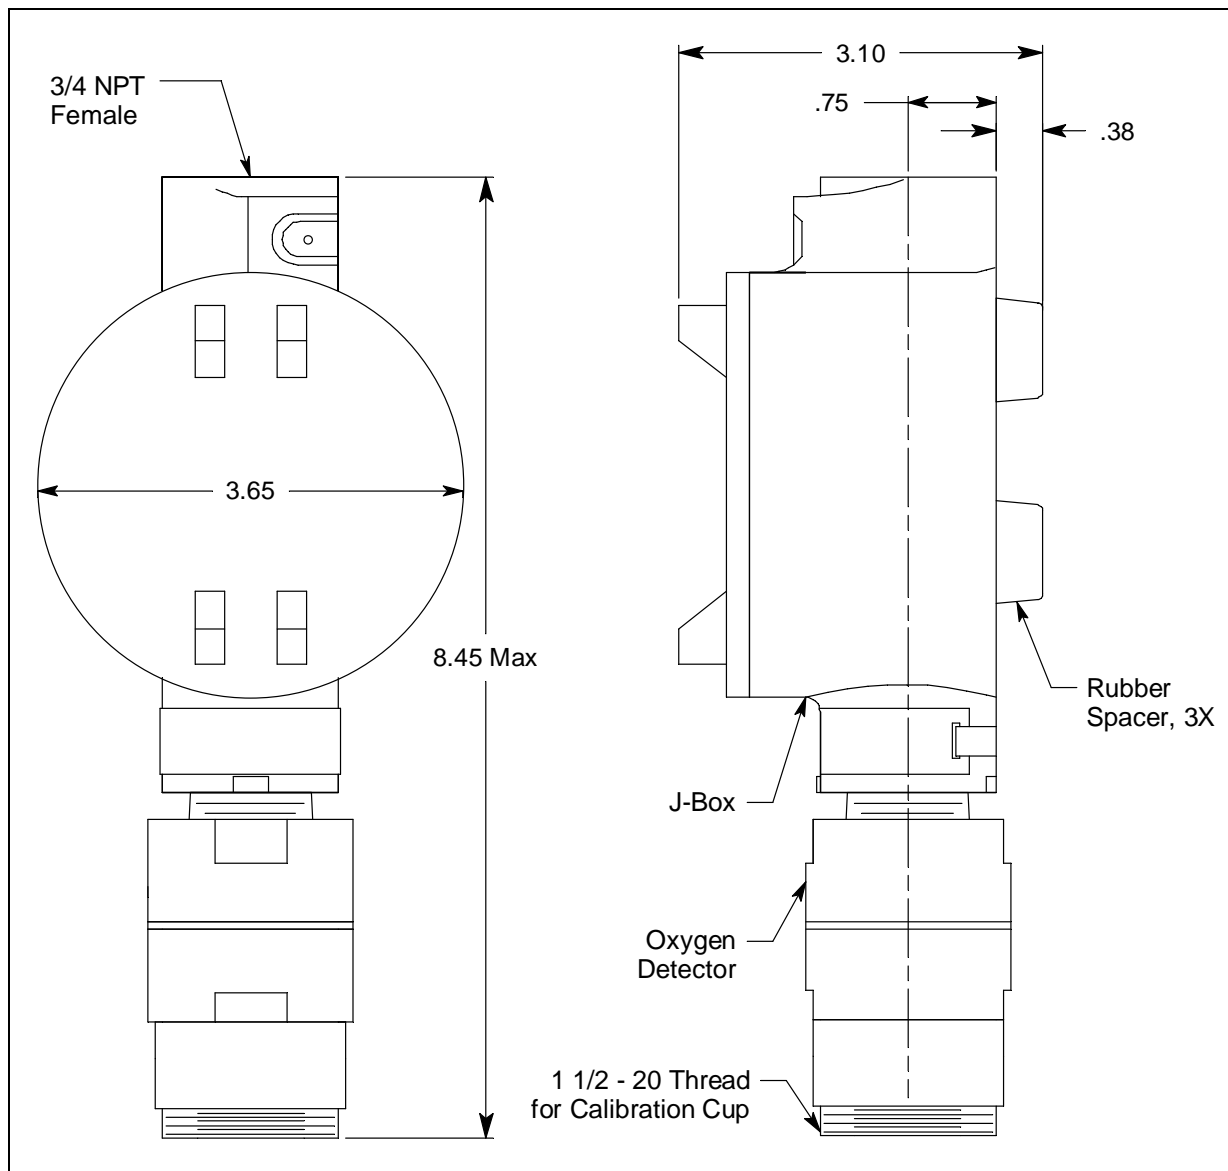

Figure 3: Mounting the Oxygen Transmitter
- At the monitoring site you select, hang or mount the junction box with the detector facing down (see Figure 3).